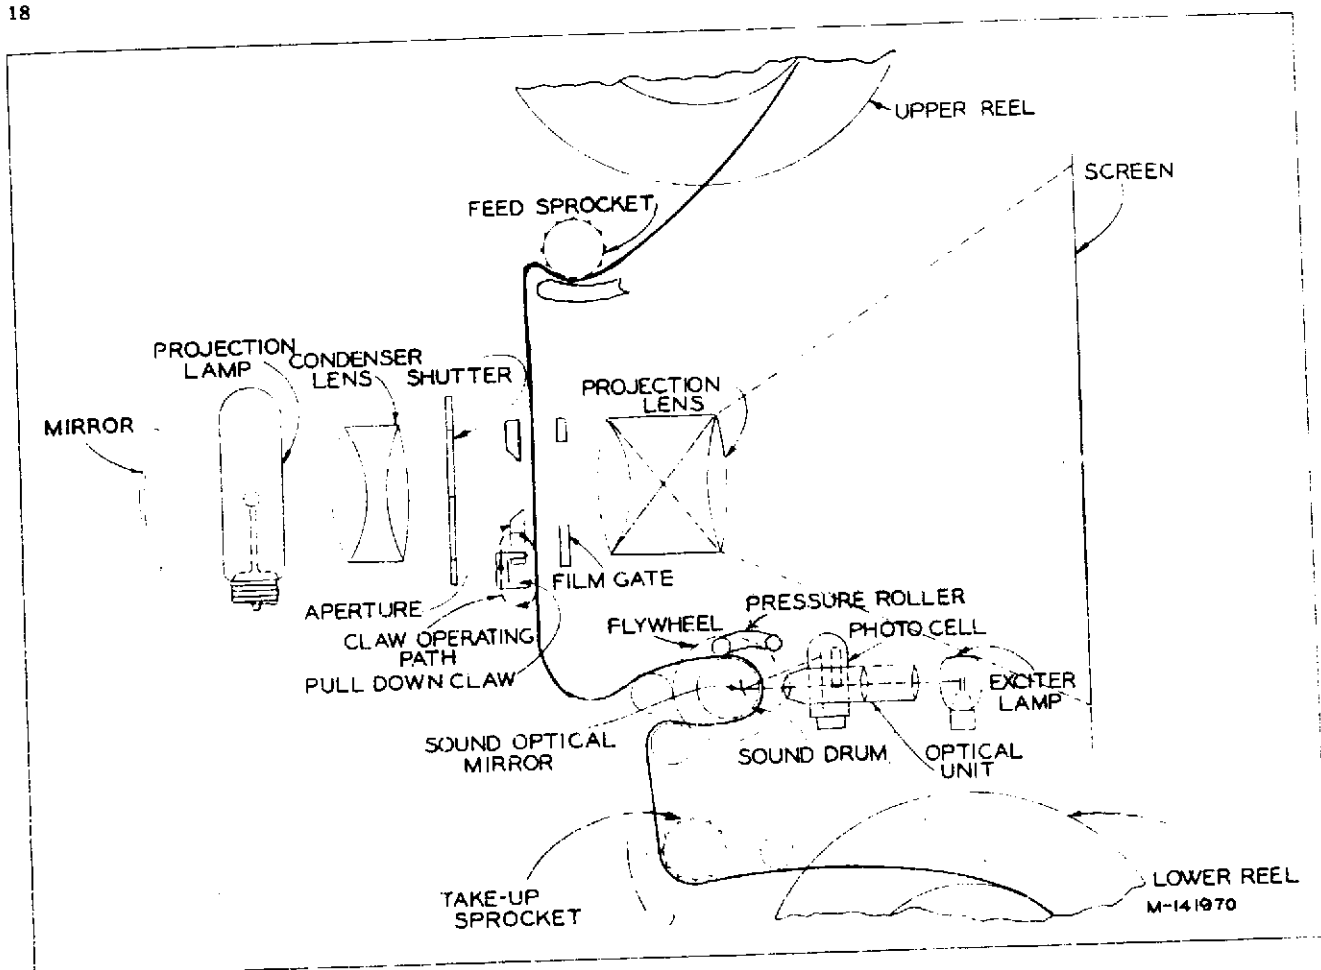

Figure 12—Functional Diagram of Projector
34. Figure 12 shows a functional diagram of a typical sound-film projection system.
35. The sound optical system is also outlined in figure 12.